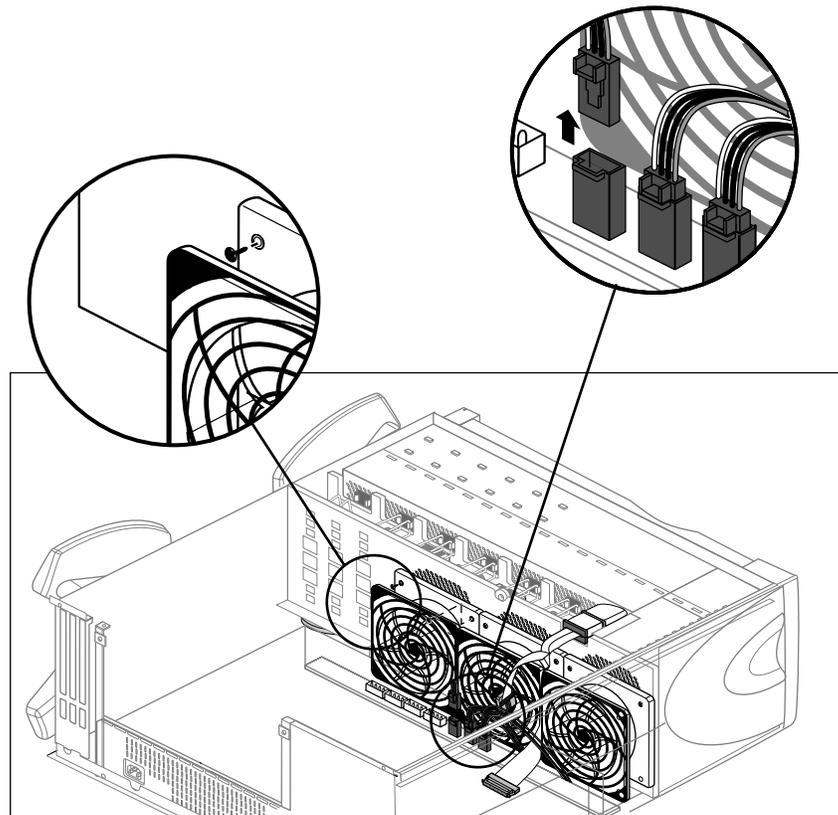

Figure 9-3 Disconnecting the Fan and Fan Power Cable (Other Components Removed For Clarity)
1. Unplug the power connector from the fan to the power supply, as shown in Figure 9-3.
2. Remove the two plastic rivets that hold the fan to the sheet metal, as shown in Figure 9-3. Push them out from behind the sheet metal with your fingertip.